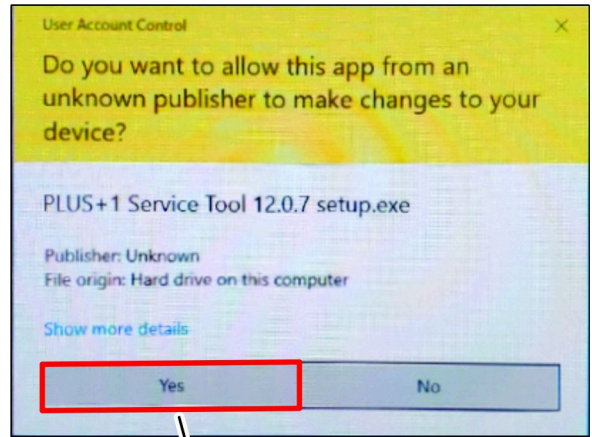

Figure 151
2. If the User Account Control dialog box displays, click the YES button (Figure 151).